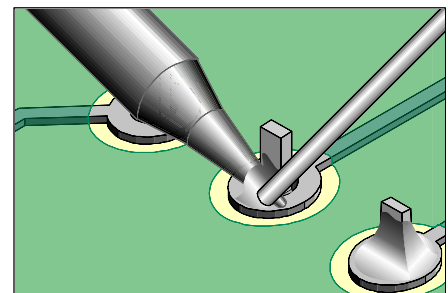

Figure 1: Apply solder at the junction of soldering iron tip and lead to make a solder bridge.
4. Place the soldering iron tip at the junction between the pad and component lead. Apply a small amount of solder at the junction of soldering iron tip and lead to make a solder bridge. (See Figure 1).